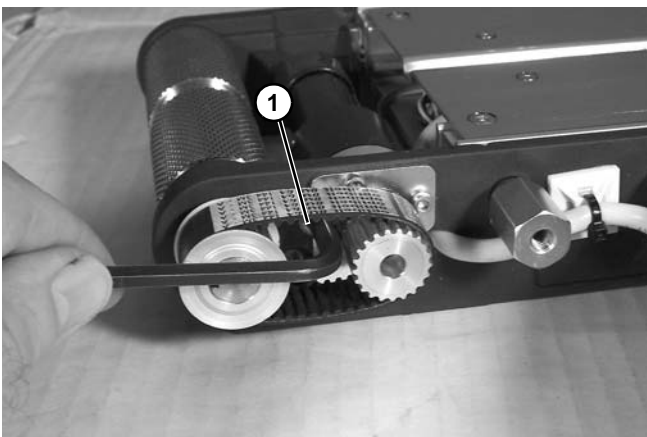

Figure 51
- Loosen timing belt tension cam (Figure 51, item 1).